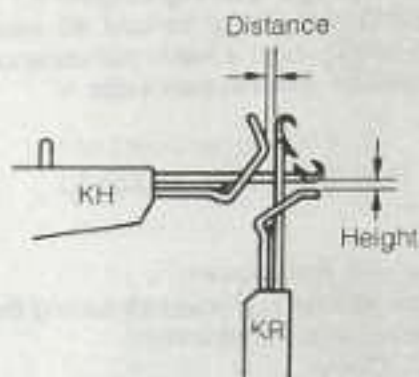
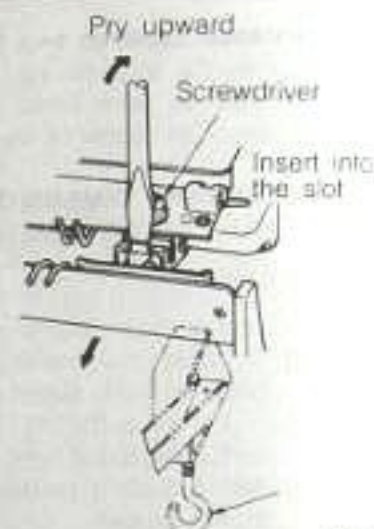

Fig.6
Fig.7
#### 2.1 Standard dimension (See Fig.6)
- (1) Loosen a little the table clamps and the thumb screws of setting plates R and L.
- (2) Pull the ribber toward you.
- (3) Insert the slotted screwdriver into the slot of setting plates and pry upward to widen the slot for the adjustment like the Fig.7 and Fig.9.
- (4) After the adjustment, push the ribber to the knitter to attach correctly and fasten the thumb screws of setting plates, and table clamps.
- (5) Check the distance referring Fig.6.
- (3) After the adjustment, fasten the thumb screws of setting plates and table clamps.
- (4) Check the distance referring Fig.6.